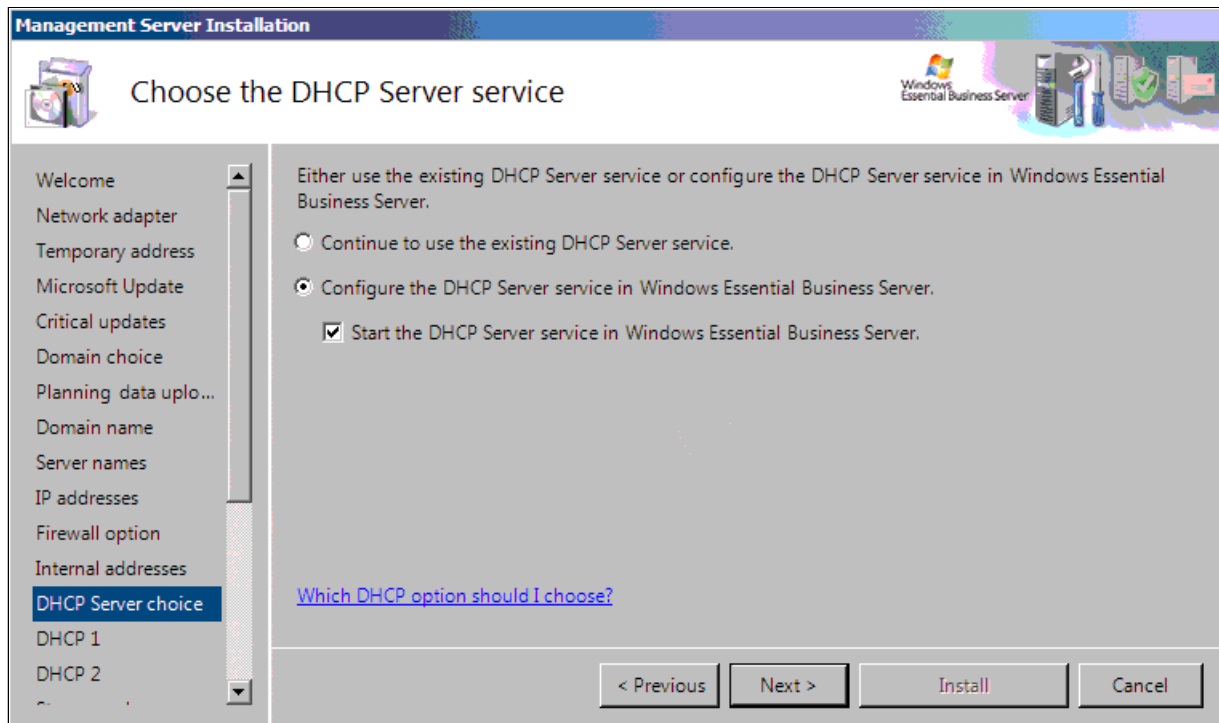

Figure 4-15 Choose the DHCP Server service
22. On the “Choose the DHCP Server service” panel (Figure 4-15), make the appropriate selection for your requirements. We clicked the **Configure the DHCP Server service in Windows Essential Business Server** radio button. Select the **Start the DHCP Server service in Windows EBS** check box. Click **Next**.